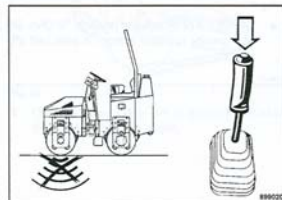

Fig. 36
- Actuate the vibration push button (Fig. 36) again.